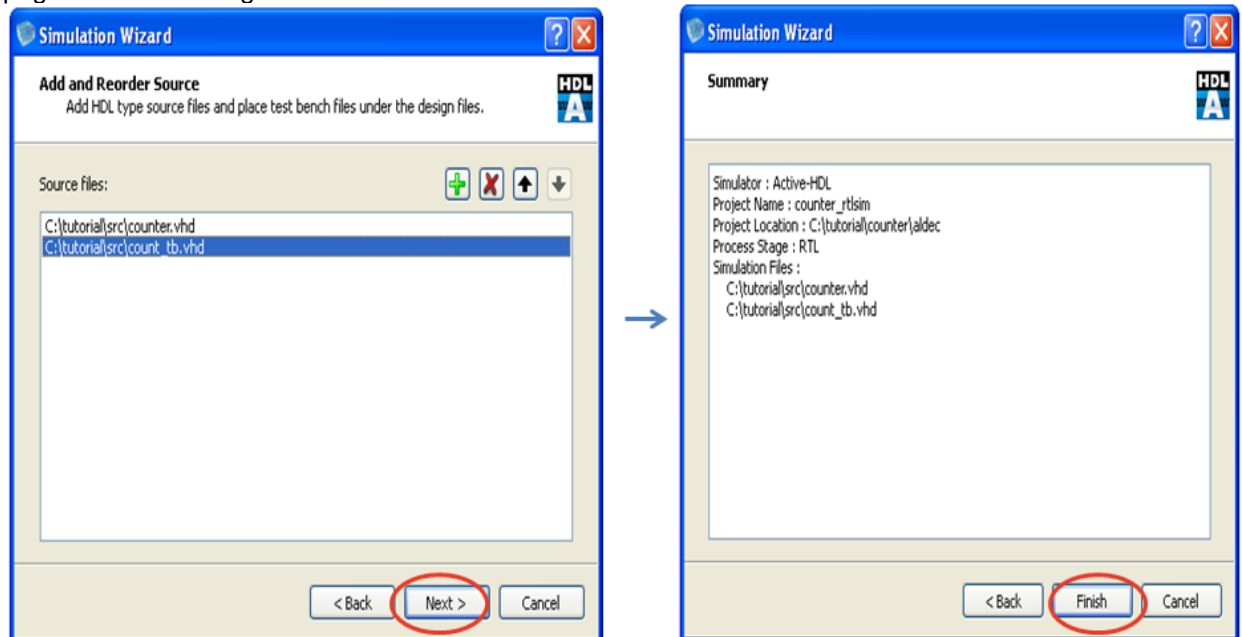

Figure 10-6: Add test bench and Complete Simulation Wizard.
4. Add “count_tb.vhd” test bench file **and click on** “Next”. Click on “Finish” in the summary page as shown in Figure 10-6.